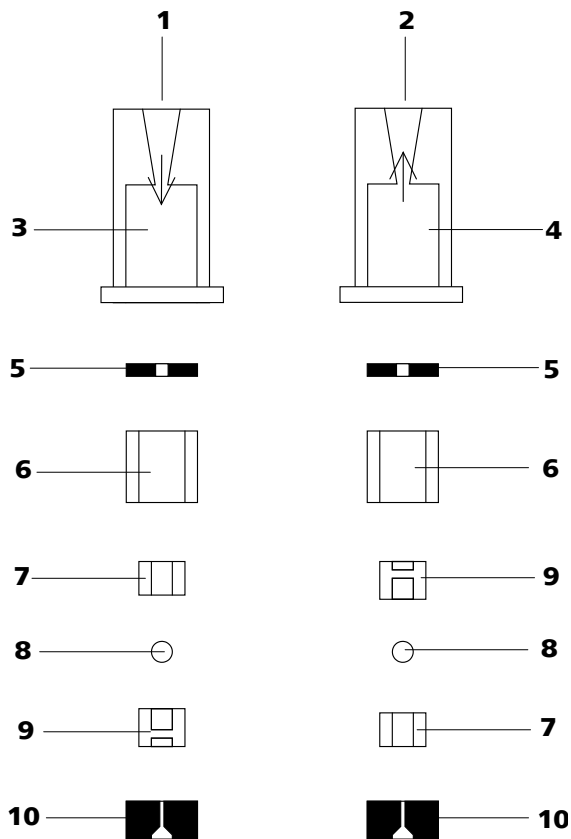

Figure 45 Components of the inlet valve and outlet valve
- The inlet valve and the outlet valve consist of the same, just differently arranged components (see Figure 45, page 86).
Reassemble valve components *according to figure 45, page 86*.
- Lay the other valve components above another in the correct sequence (*see Figure 45, page 86*).
If this is not the case, the valve has to be dismantled again and be assembled correctly (see Figure 45, page 86).